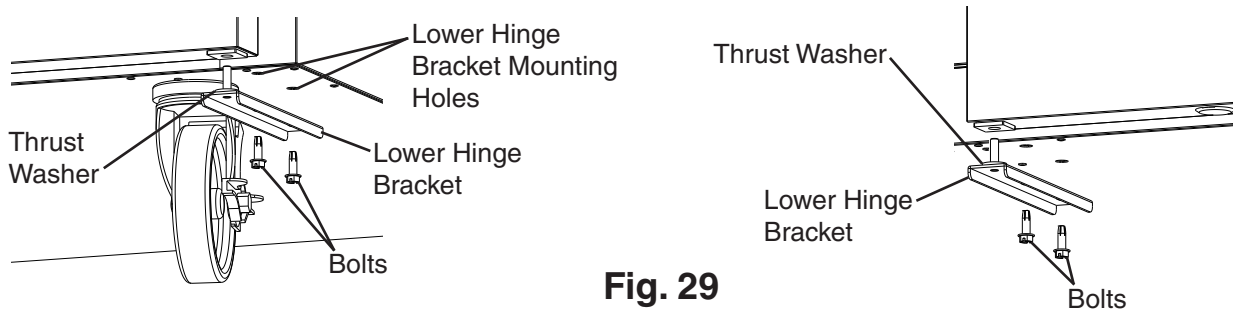

**Fig. 29**
- 12) Remove the lower hinge bracket. See Fig. 29. Be sure to leave the thrust washer in place.